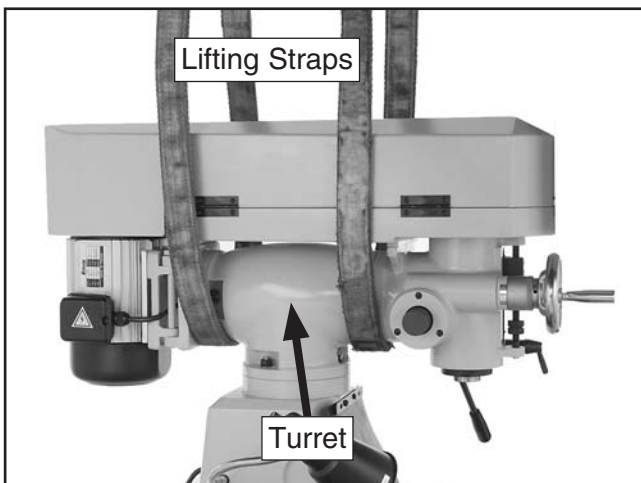

Figure 8. Positioning the lifting straps.
1. After removing the crate from the shipping pallet, wrap lifting straps around the turret, as shown in **Figure 8**, and securely attach them to your power lifting equipment.